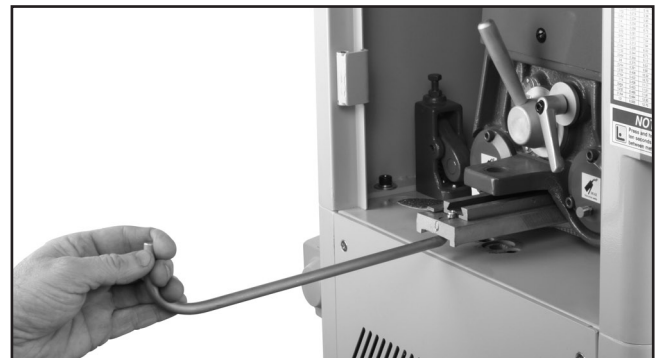

Figure 23. Removing platen.
2. Open the left access door, and use the platen tool, shown in **Figure 23**, to remove platen.